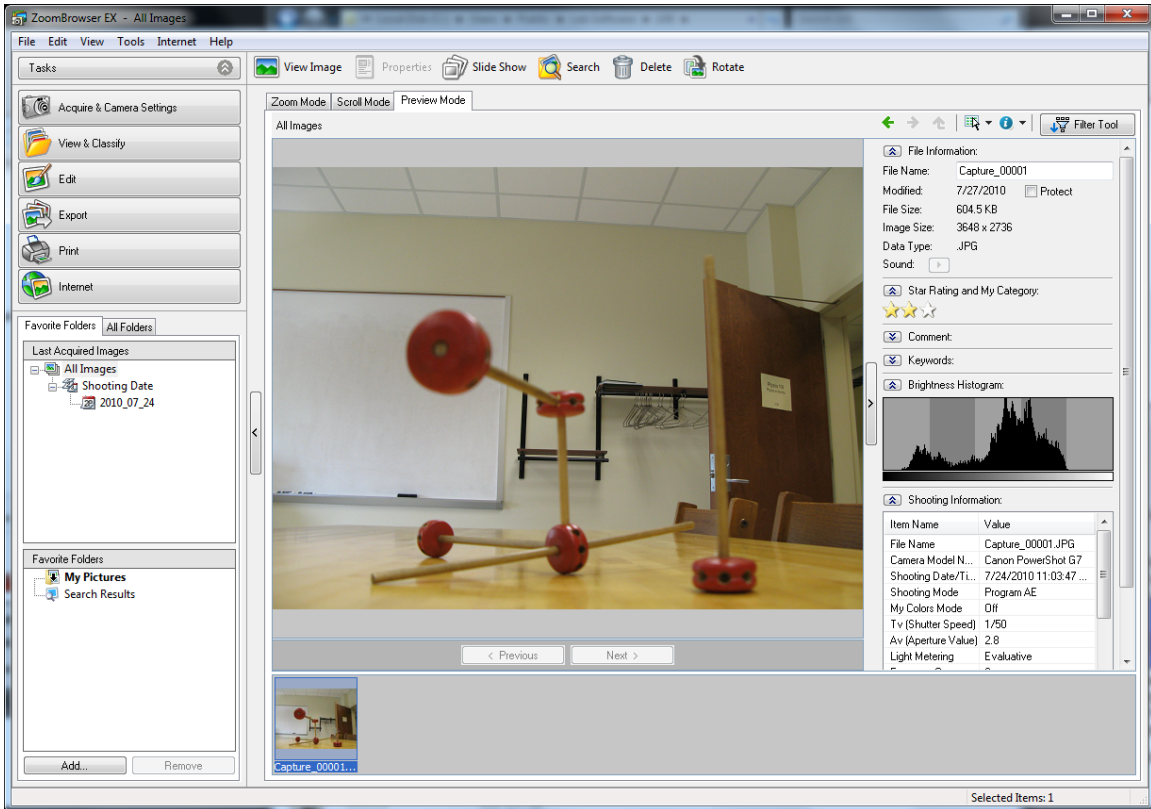

Figure 2: ZoomBrowser EX window
- Click on the “Scroll Mode” tab in the Zoom Browser EX Window (see Fig. 2).